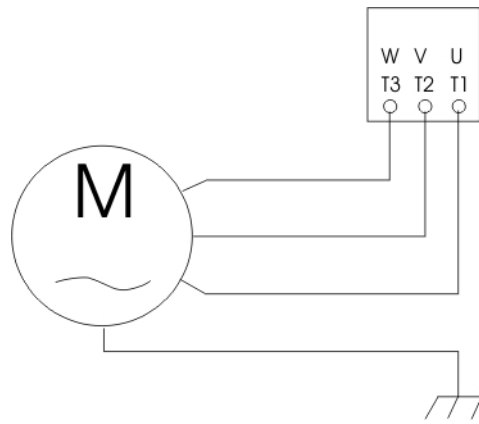

Figure 5.11: Inverter Drive to Motor Detail
7. For testing, select program 30 by pressing key 3 and key 0 on the keypad. Then press ENTER followed by the START key. Run the complete program, checking operation of water inlet valves, drain, and extract functions. Program 30 is a test program that goes through most machine functions. Please note that the Spin 99 routine is **designed to fail balance**. Simply advance the program to the Spin 3 cycle after balance fails (use the appropriately named ADVANCE key). Refer to the EL6 Stock Program Listing that came with the machine for further details on the test program.
8. Cylinder rotation must be counter-clockwise in the extract step. If rotation is not correct, disconnect the power to the machine. A qualified technician must reverse any two leads between the AC drive and the motor. See figure 5.11 on page 32.